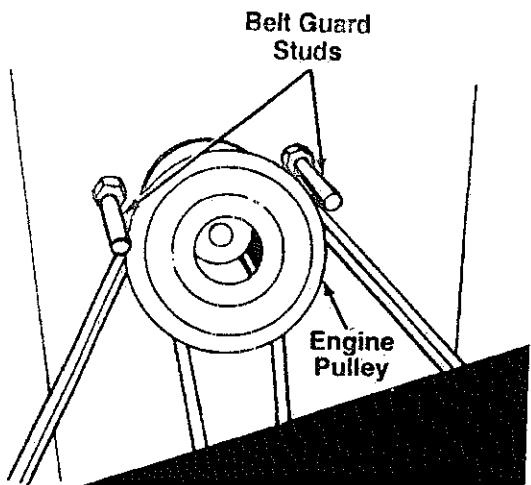

FIGURE 20-Models without electric clutch
NOTE: Figure 20, 25 and 26 are shown with the unit tipped up for clarity. It is not necessary to tip the unit to remove the belts.
2. Remove the belt guard studs (belt keepers) from the frame. See figure 20.
3. Remove the belt guard stud (belt keeper). See figure 20.